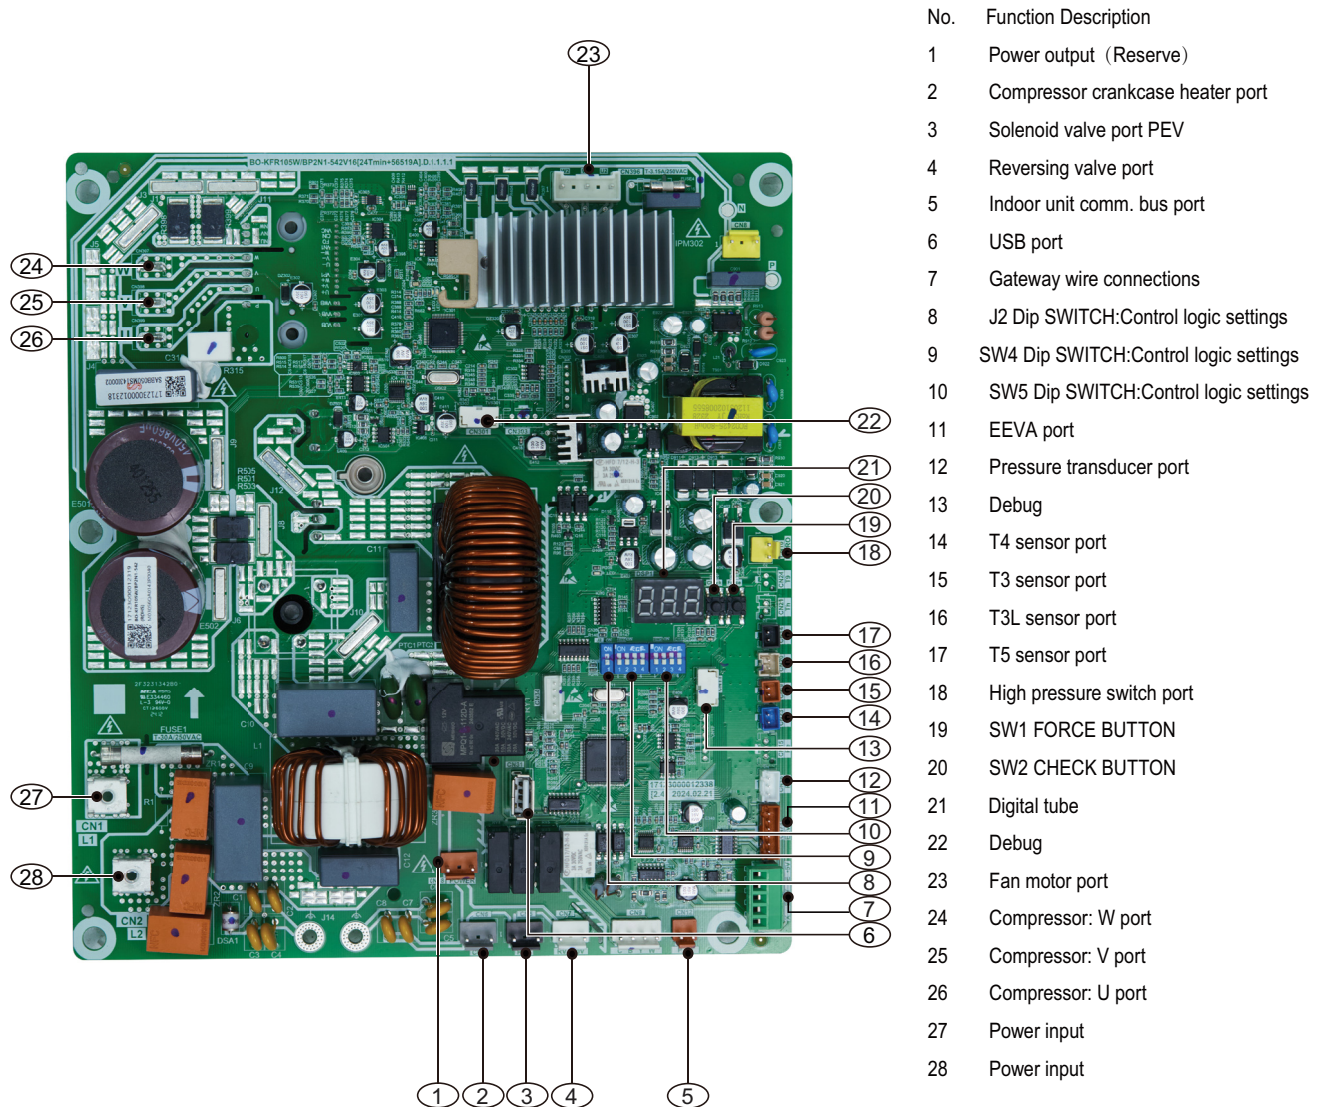

Figure 58
- To display system parameters, press the “Check” button to index through the series of parameters available. The first time you press the “Check” button, it will display the sequence, and after 1 second it will display the value of the parameter. If you press the “Check” button again, it will display the next sequence. Refer to Figure 58 and Figure 59 for check button location on the control board.